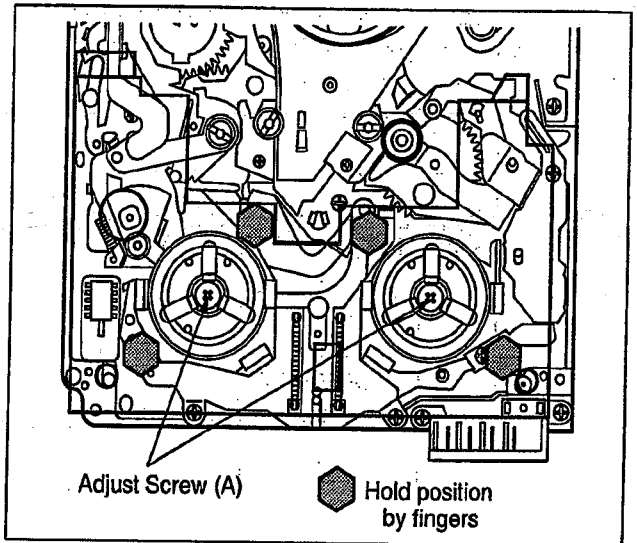

Fig. A13
2. Hold the Mechanism Plate by finger and slowly turn the adjustment screw to counterclockwise until just Reel Table rotating with adjustment screw as shown in Fig. A13.